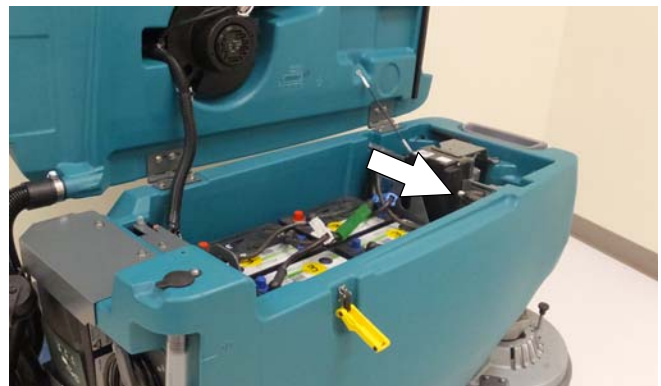

FIG. 90
2. Lift the recovery tank to access the ec-H2O water conditioning cartridge (Figure 90). Drain recovery tank before lifting tank.